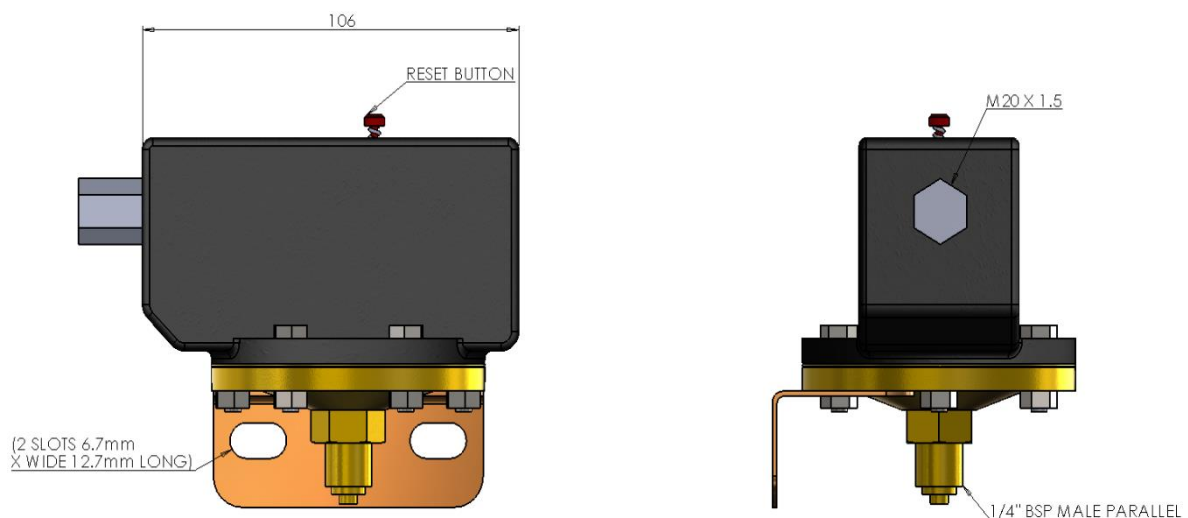

Figure 5.9.1 – Discharge pressure switch
- Connect the G1/4" male connection on *Figure 5.9* to the female 1/4" parallel connection on *Figure 5.9.1*